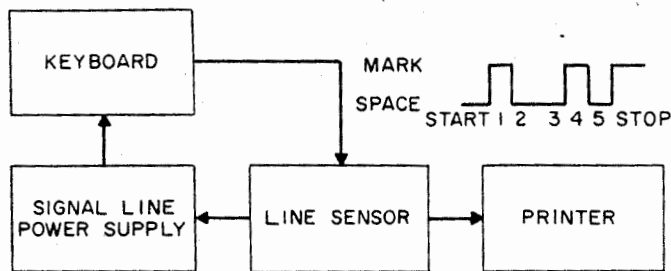

Figure 4-2. Off-Line Local Mode, Functional Block Diagram
The coded pulse train shown in figure 4-2 represents the letter D. This letter has a signal code combination of space (no-current) pulses on start, 2, 3, and 5 and mark (current) pulses on 1, 4, and stop. For further information on the signal code combinations, refer to figure 1-2.
c. OFF-LINE LOCAL MODE. — In off-line local mode (figure 4-2), the teletypewriter set functions as an electric typewriter and requires no connection to external equipment. The signal line power supply, keyboard, and line sensor of the local machine are connected in series to form a closed signal loop. The signal line power supply furnishes d-c current for the signal loop.